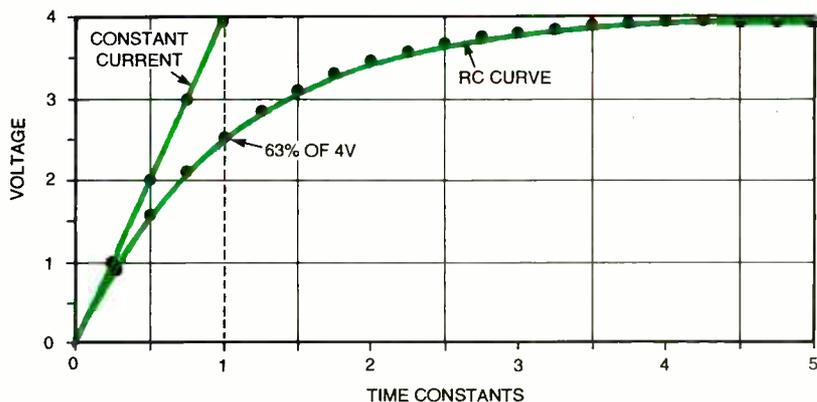

Fig. 1. This graph illustrates the difference between series-resistor charging and constant-current charging.
**Features.** Many capacitor testers rely on frequency to measure capacitance, but the Electrolytic Meter is based on the RC time-constant method. That allows the unknown capacitor to be linearly charged from 0-4.4 volts. The graph in Fig. 1 illustrates the difference between series-resistor charging and the constant-current charging ( $t = R \times C$ , where  $R$  is the value of the selected range resistor, and  $C$  is the value of the unknown capacitor).